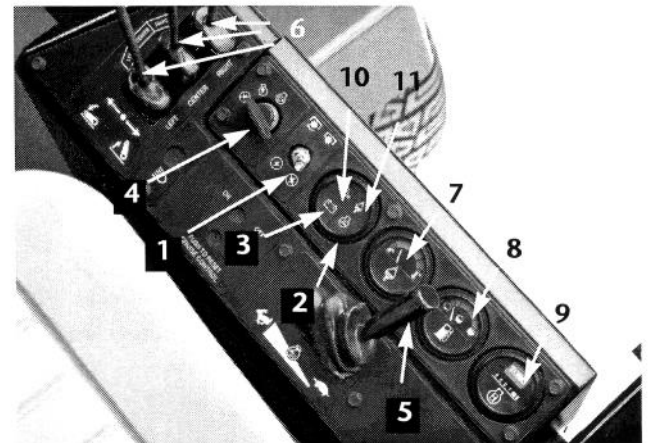

Figure 14.
**Cutting Unit Engagement Switch (Fig. 14)**—Used to start and stop cutting unit operation. Lift switch and move forward to actuate the cutting unit. Center deck will engage first followed by wing decks engaging approximately one second later.
**Glow Plug Indicator (Fig. 14)**—Automatically actuates proper glow period when the ignition key is turned to ON. Illuminates when the glow plugs are actuated. When the glow plugs are heated sufficiently, light goes off indicating the engine is ready to start.
**Charge Indicator (Fig. 14)**—Illuminates when the system charging circuit malfunctions.
**Key Switch (Fig. 14)**—Three positions: OFF, ON and START. Turn the key to START and release it when the engine begins running. To stop the engine, turn the key to OFF.
**Throttle Control (Fig. 14)**—Move control forward to increase the engine speed, backward to decrease speed.
**Cutting Unit Lift Controls (Fig. 14)**—The two outside levers raise and lower the wing cutting units. The center lever raises and lowers the whole cutting unit. The engine must be running to lower the cutting unit. When wing cutting units are raised higher than 15°, their blades automatically disengage. To lower the cutting unit just touch the levers momentarily.
**Coolant Temperature Gauge (Fig. 14)**—Shows the temperature of engine coolant.
**Fuel Gauge (Fig. 14)**—Shows the amount of fuel in the tank.
**Hour Meter (Fig. 14)**—Shows the total hours the machine has been operated.
**Engine Oil Pressure Warning Light (Fig. 14)**—Indicates dangerously low engine oil pressure.
**Engine Coolant Temperature Warning Light (Fig. 14)**—The red light illuminates and the engine stops when temperature of the coolant exceeds 110° C (230° F).